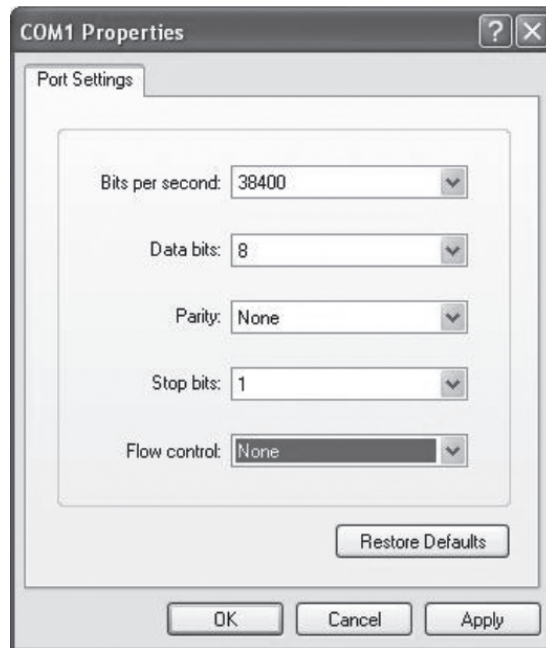

Figure 5-7 Port Settings
5. Configure the port selected in the step above as the following Figure 5-7 shown. Configure Bits per second as 38400, Data bits as 8, Parity as None, Stop bits as 1, Flow control as None, and then click OK.